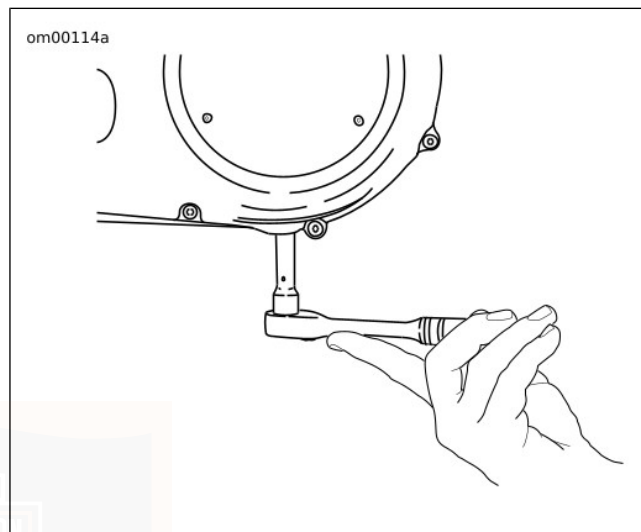

Figure 55. Removing Chaincase Drain Plug
2. See Figure 53 and Figure 55. Remove magnetic drain plug at bottom of primary chaincase cover. Drain lubricant into suitable container.